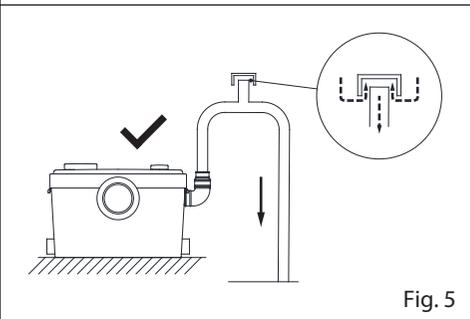

Fig. 5
- e. When the point of discharge into the soil stack is lower than the base of the unit, a vacuum relief valve may need to be fitted at the highest point of the pipe run in order to avoid siphonage.(Fig 5)